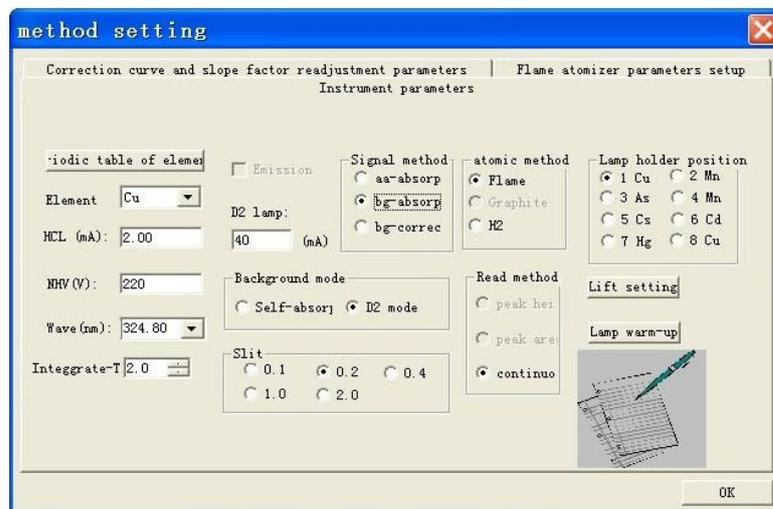

Figure 6-3
5. Select element Cu, select "Background correction" for the signal mode and "Deuterium lamp" for the background mode, and set other parameters as shown in Figure 6-3.